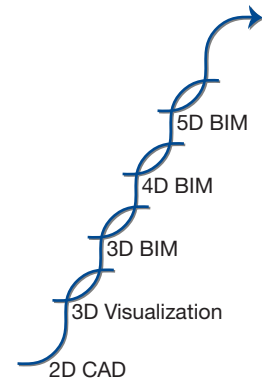

Figure 5.10 Progress in BIM and integrated design can be seen as a succession of sigmoid curves.
**PR:** The ability to build a digital prototype allows for a much higher-quality project. (See Figure 5.10.)